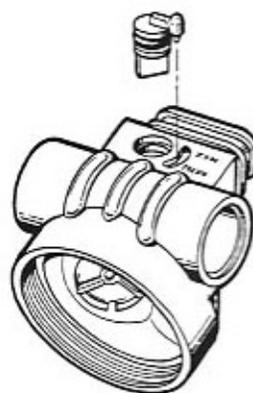

Figure 8
1. Place a small amount of Dow Corning 111 lubricant (pure silicone grease) on the O-ring (item 1) and install it in the O-ring groove of the vane adjustment switch (item 2).
2. Install the vane adjustment switch (item 2) into the hole of the air outlet boss on the box bottom (item 3). Once the vane adjustment switch is in place, make sure the small pin of the vane switch is properly aligned in the groove on the box bottom (figure 8).